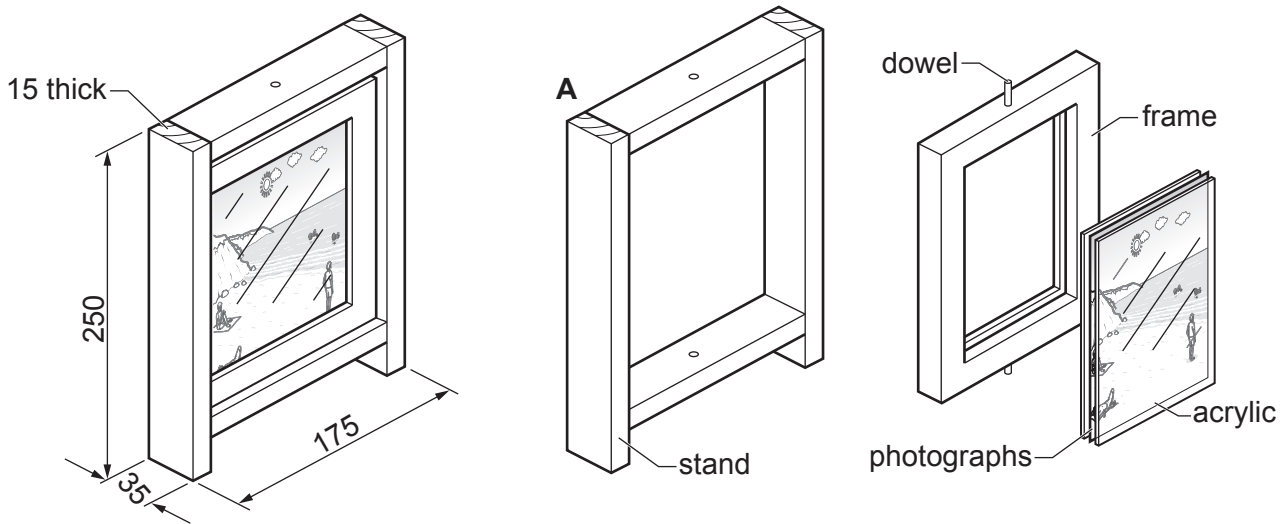
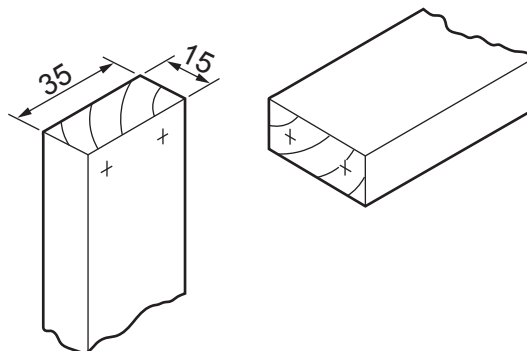

Fig. 11.1
Fig. 11.4
- 11 Fig. 11.1 shows views of a photograph frame held in a stand. The frame is made from MDF. The stand is made of hardwood. The frame can be made to rotate inside the stand to show two photographs.
(e) Fig. 11.4 shows the positions for the dowel joint at corner **A** shown in Fig. 11.1.